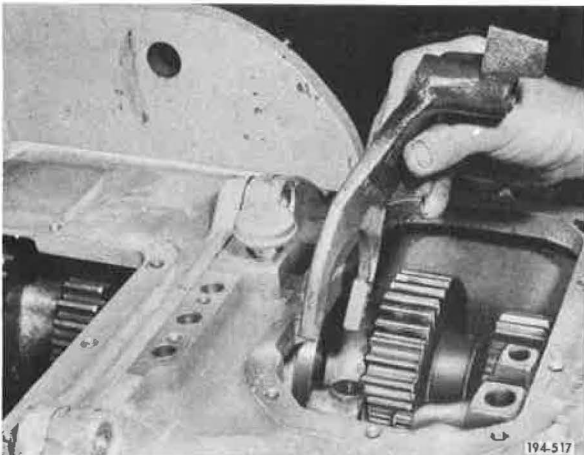

Figure 5-684. Removing Shift Fork
18. Remove first speed shift fork. See Figure 5-684.